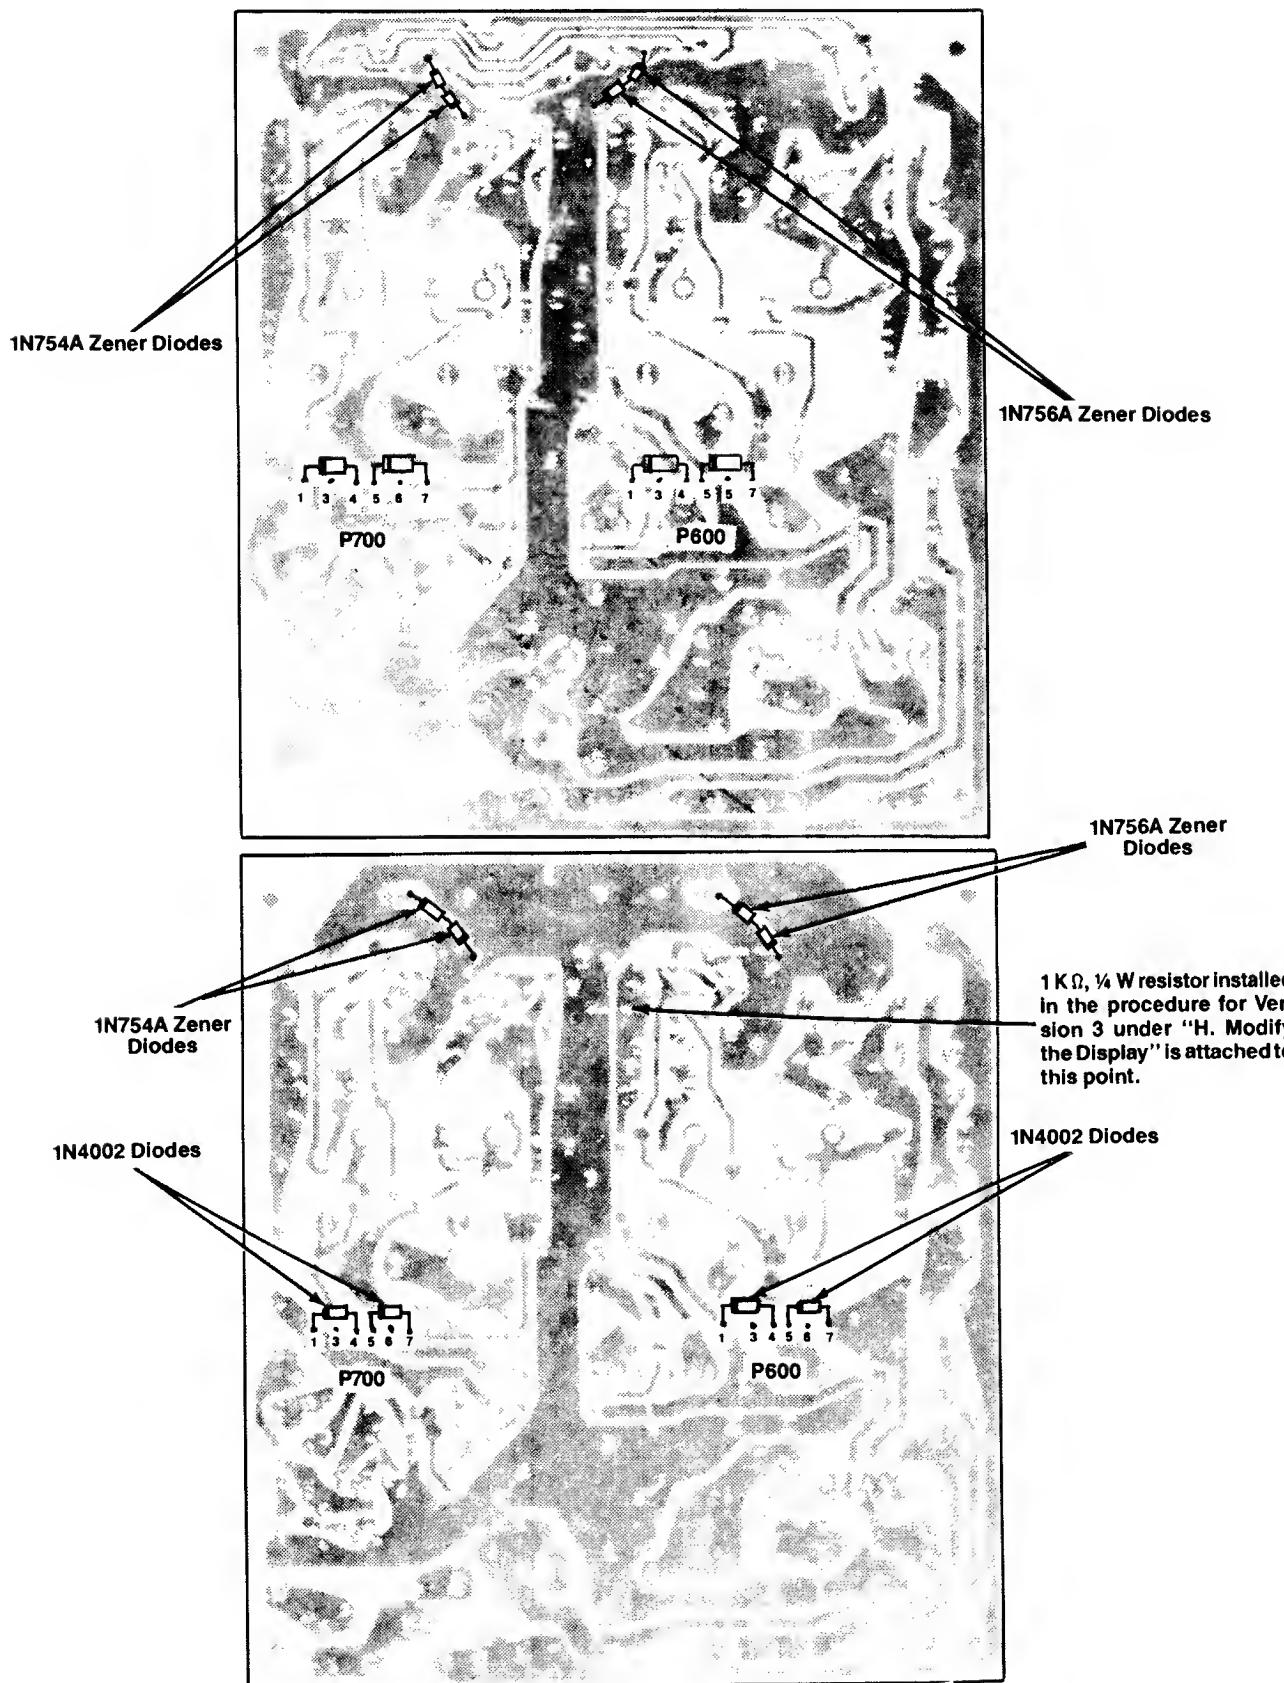

Figure 8 Modifying the Deflection PCB
7. Examine the soldered side of the Deflection PCB removed from the display and determine which of the two PCBs shown in Figure 8 matches your PCB. *Bottom*
9. Solder one cathode lead of the two type-1N754A Zener diodes (soldered together in step 5) to the yellow lead on the soldered side of the PCB as shown on the appropriate illustration in Figure 8.
10. Solder the other cathode lead of the two type-1N754A Zener diodes to ground as shown on the appropriate illustration in Figure 8.
12. Solder one cathode lead of the two type-1N756A Zener diodes (soldered together in step 6) to the orange lead on the soldered side of the PCB as shown on the appropriate illustration in Figure 8.
13. Solder the other cathode lead of the two type-1N756A Zener diodes to ground as shown on the appropriate illustration in Figure 8.
15. Solder the cathode lead of a type-1N4002 diode to pin 1 and the anode lead to pin 4 of connector P600 on the soldered side of the PCB as shown on the appropriate illustration in Figure 8.
16. Solder the cathode lead of a type-1N4002 diode to pin 5 and the anode lead to pin 7 of connector P600 on the soldered side of the PCB as shown on the appropriate illustration in Figure 8.
18. Solder the cathode lead of a type-1N4002 diode to pin 1 and the anode lead to pin 4 of connector P700 on the soldered side of the PCB as shown on the appropriate illustration in Figure 8.
19. Solder the cathode lead of a type-1N4002 diode to pin 5 and the anode lead to pin 7 of connector P700 on the soldered side of the PCB as shown on the appropriate illustration in Figure 8.
2. Locate the wire connected to resistor R1 (22 kΩ) and the collectors of transistors Q1 and Q3 (type 2N3904) on the Input Protection Circuit PCB and the point shown in Figure 8 on the Deflection PCB.